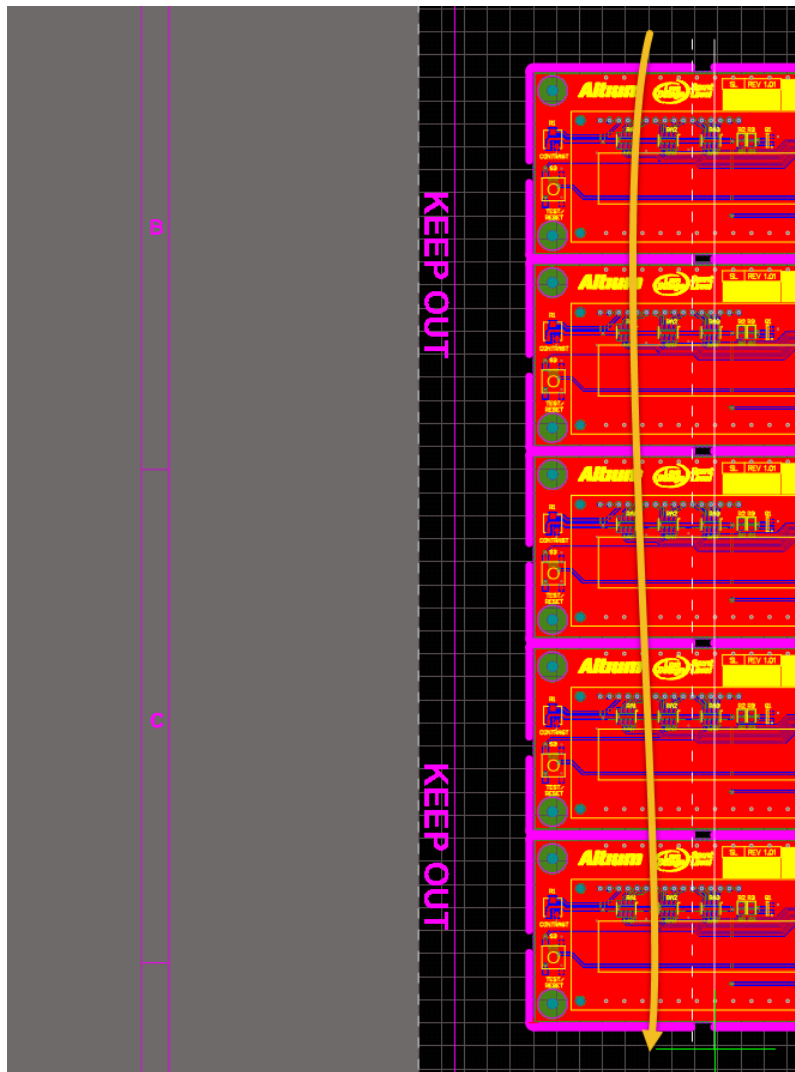

Figure 15. Vertical cut across entire panel
b) Left-click and slice the tracks vertically across the entire panel as shown in Figure 15.